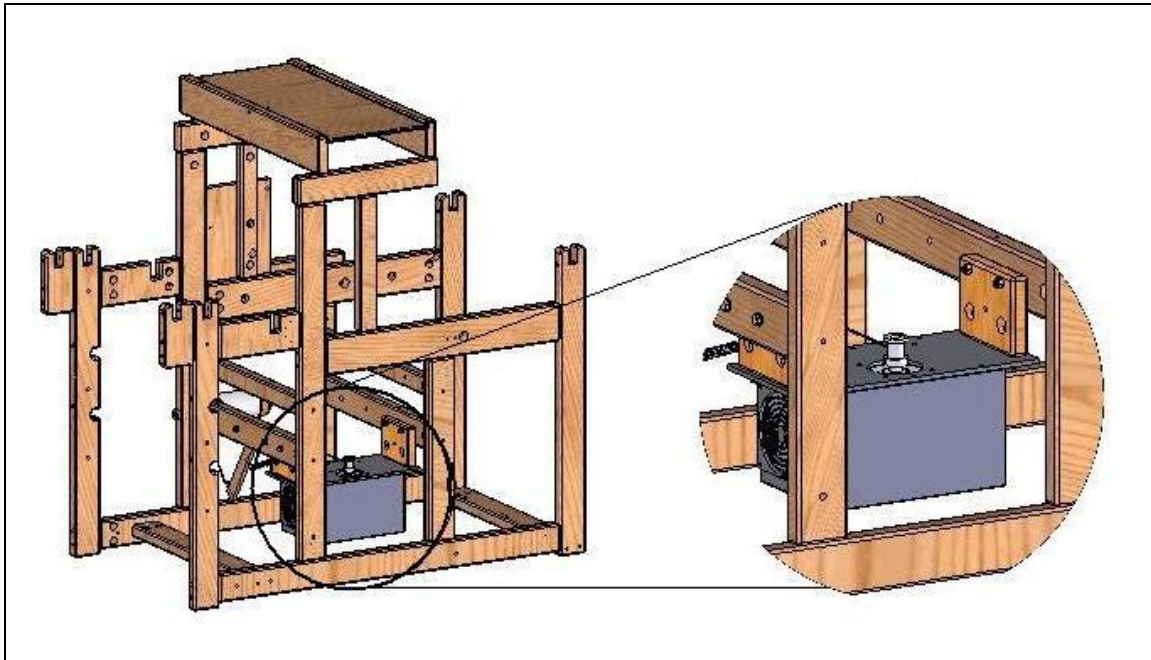

Figure 5 – Motor Box Installed
6) Install Mounting Blocks – (see Figure 5) Mount the two Blocks onto the top of the E-Lift Motor Box. Run one (1) 5/16-18 x 2” Hex Bolt, with one (1) 5/16 Split Lock Washer, up through the flange on the top ends of the Box, into the pre-drilled holes located at the narrow, bottom end of each Block. Tighten by holding one (1) 5/16 Square Nut in place, with the flat side down, through the lateral hole provided for access. Note: the angular corners of the Square Nut will need to bind down, into the wood.
1) Install the E-Lift II+ Motor Box - (see Figure 5) Position the Box underneath and between the two Crossmembers. Insert the four (4) 5/16-18 x 2-3/4" Hex Bolts, with washers, from the outside, into the previously drilled Holes #2 and #3, just far enough to keep them from falling out, while not protruding into the central area. Position the Box in the space between the Crossmembers, so that the Plug Connection for the Pedal faces to the Front and the Motor Box Pulley is closest to the Left Side of the loom. Lift the Box into place and push the Mounting Block Bolts all the way through the Blocks and tighten in place with one (1) 5/16 Washer and one (1) 5/16 Nylock on each Bolt.